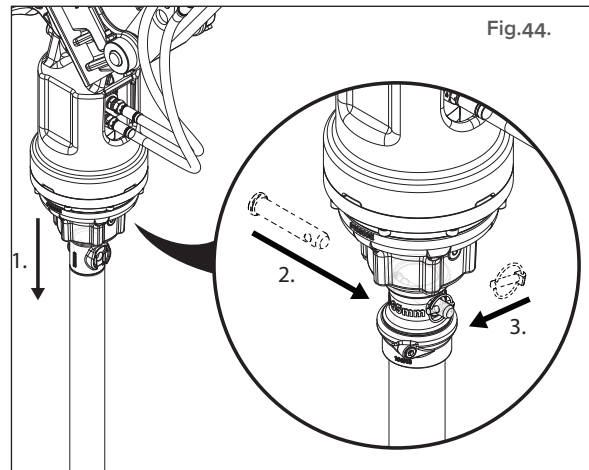

Fig.44.
2. Insert Locking pin. 2. **Fig.44.**
3. Capture locking pin with locking clip. 3. **Fig.44.**